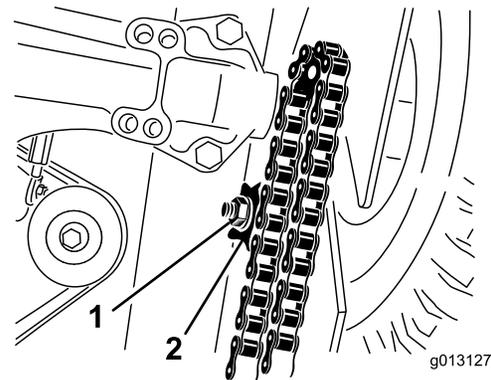

Figure 33
- A. Loosen the nut securing the idler sprocket of the chain you are tensioning (Figure 33).